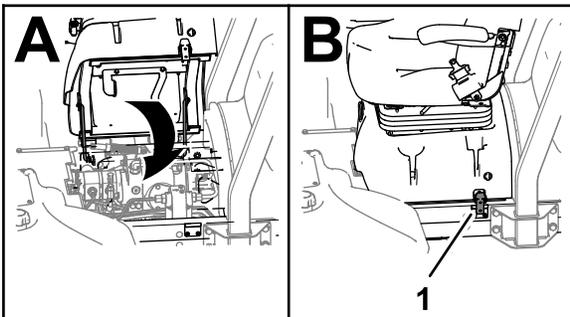

Figure 34
3. Rotate the seat and seat base closed, and latch the base (Figure 34).